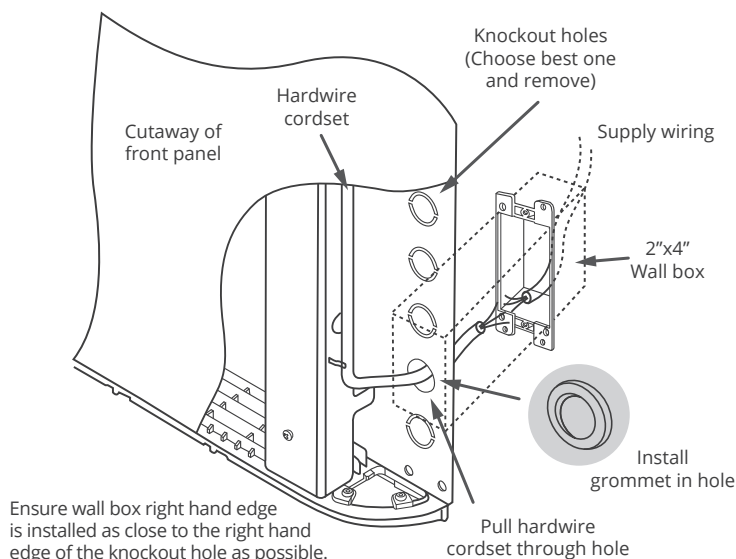

Fig. 10
- 1 Determine the best wall mounting location of the Envi Heater in a room. If the proper electrical wiring and wall box already exists at a suitable height on the wall, then choose a suitable knock-out hole on the back of the heater (5 holes to choose from) and position the heater on the wall so that the knockout hole lines up with the electrical wall box. Refer to Fig. 10 for more details.
- 3 Remove the Envi Heater from the wall to prep for the hardwiring steps. Pull the cordset through the knockout hole using pliers and install the supplied protection grommet. Strip wires to expose 5/8" of copper on all 3 of the cordset wires (see Fig. 10).